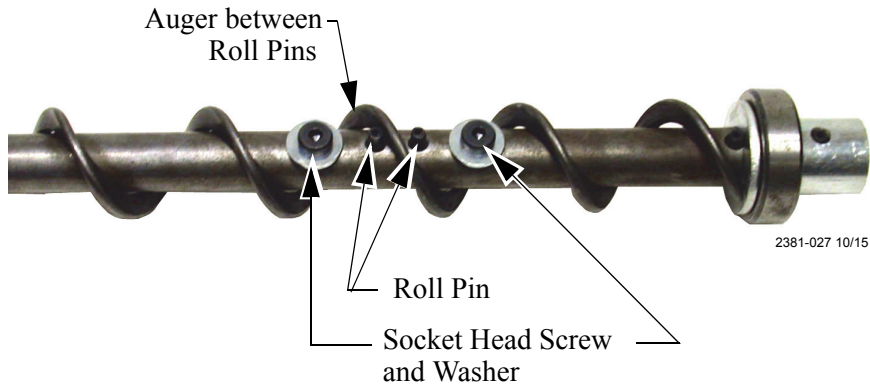

Figure 60. Auger and anchor Bearing Connection
1. Insert the anchor assembly into the auger until it touches the washer at the back of the anchor. Tighten the setscrews in the center of the anchor until they touch the auger, then tighten a maximum of 1/2 turn. See **Figure 60.**